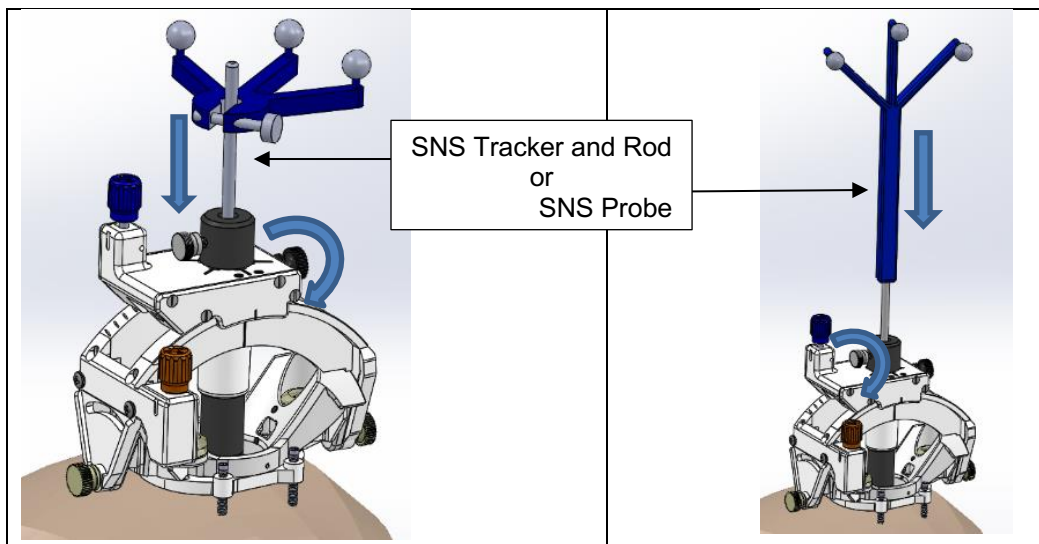

Figure 11: SMARTFrame Array with SNS Universal Tracker or SNS Probe inserted into the Tower Probe Adapter
4. Once the Tower is secured on the Base, insert the Universal Tracker Rod or SNS Probe into the Tower Probe Adapter, and secure it with the Thumbscrew. The Rod or Probe may be placed at any vertical position inside the Probe Adapter. **See Figure 11.**